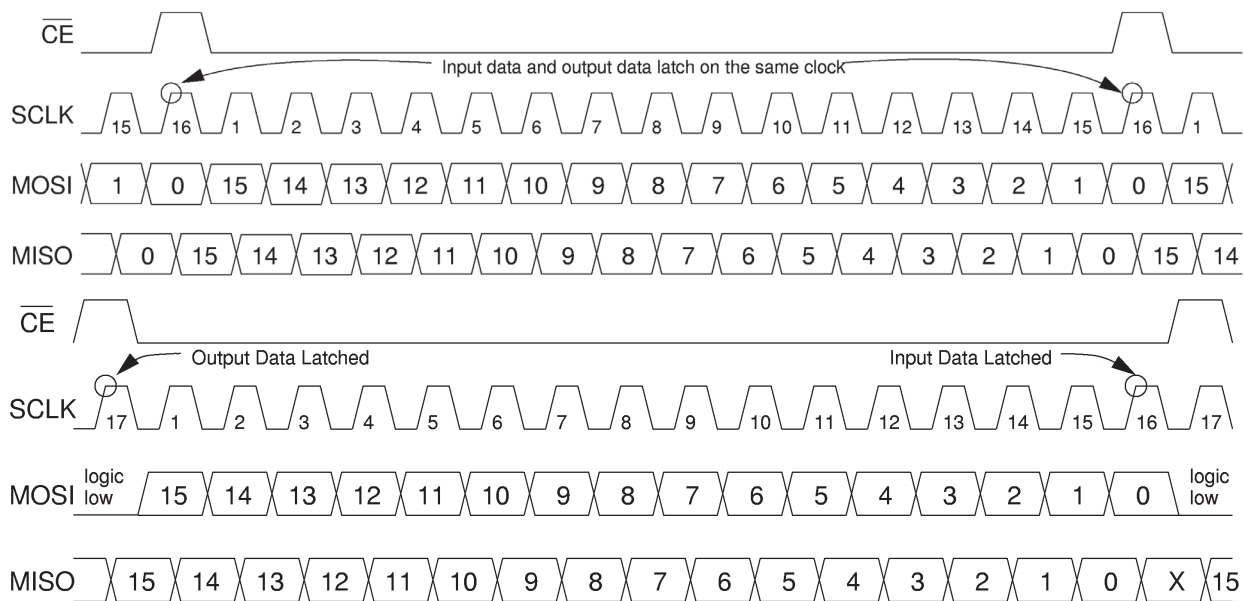

Figure 4. Serial Interface Timing
- 22. See Figure 4, Serial Interface Timing, page 16.